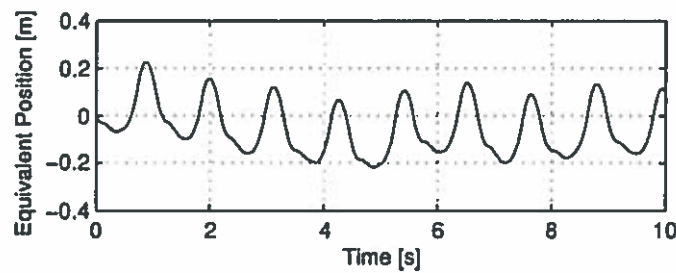

Figure 1 Position of generator attachment point whilst walking
- Determine maximum stimulation current. From Figure 1 – each cathodic/anodic phase = $50\mu\text{s}$. Therefore since $Q=It$ (for fixed current) $\rightarrow i_{\text{Max}} = 250\text{nC}/50\mu\text{s} = 5\text{mA}$.
- b) Figure 1 shows a new pixel architecture to be used a part of an array in an integrated CMOS based diagnostic device. The total pixel size is $150\mu\text{m} \times 150\mu\text{m}$ with a total sensing area of $100\mu\text{m} \times 100\mu\text{m}$ which is capable of sensing both glucose and pH. The working electrode is coated with glucose oxidase to give a peak current to glucose at $V_{\text{Cell}} = 0.7\text{V}$ according to the following reaction:
where the diffusion coefficient $D = 4.38 \times 10^{-8} \text{ m}^2/\text{s}$. Calculate the maximum range of the WE current, using the dimensions shown in Figure 1, to capture the physiological range of glucose.
- iii) The transimpedance amplifier has a poly-silicon integration capacitor determined by the remainder of the area in the pixel shown in Figure 1. A capacitance per unit area of poly-silicon is $4 \times 10^{-4} \text{ pF}/\mu\text{m}^2$. Calculate a suitable clock frequency that maximizes the dynamic range of the pixel for glucose measurement using the current calculated in b.i.
ii) The position profile at the place of the proposed implant was measured as shown in Figure 1. Estimate the output power of a resonant harvester attached at this